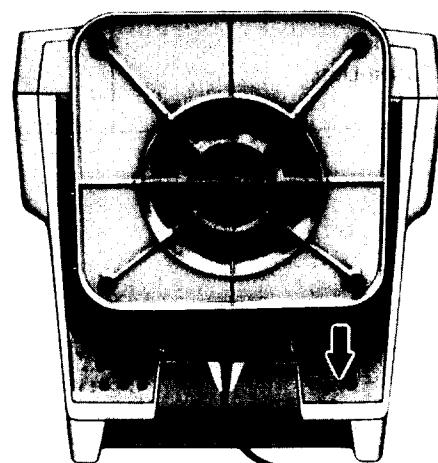

Figure 16
- g) Slide the swivel down and remove it. (Figure 16)